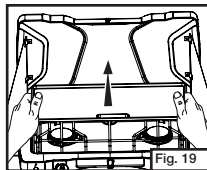
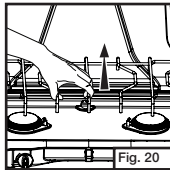

Fig. 19
Fig. 20
- Lift off griddle and pot support. (Fig. 19 and Fig. 20)